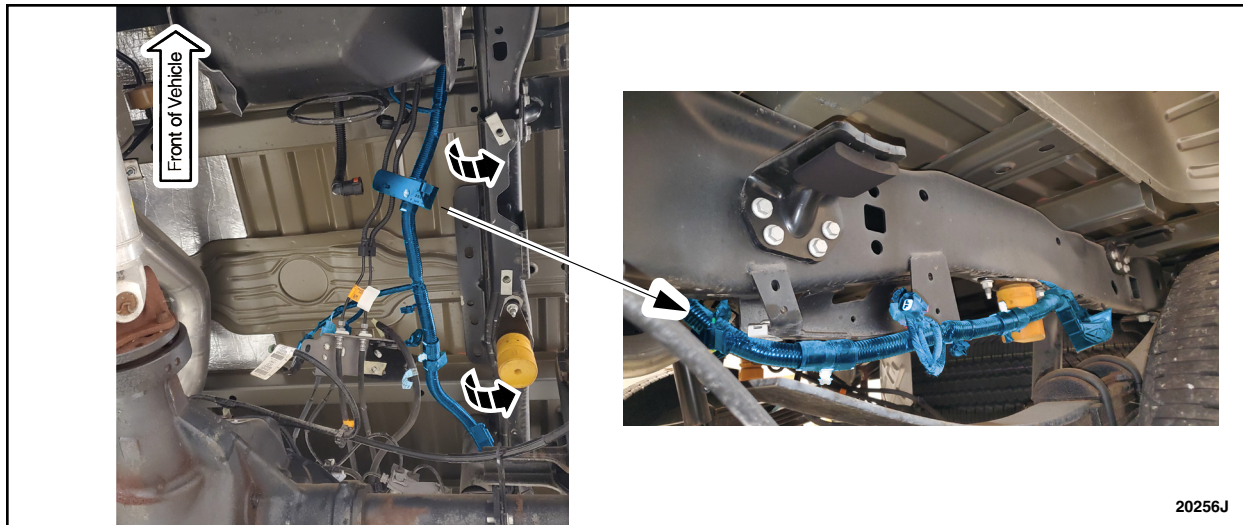

FIGURE 11
15. Position the harness aside to create a large enough repair area to work in. See Figure 11.